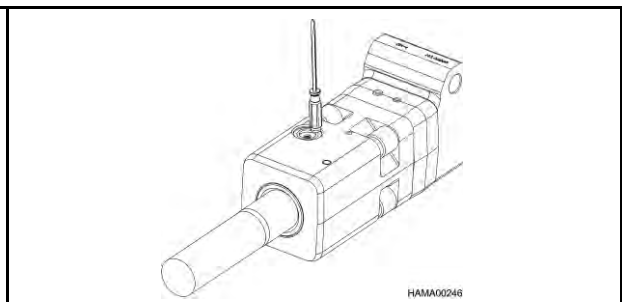

Figure 5
- b. Using the handle of the screwdriver, press the rest of the ring into the groove, see Figure 5.